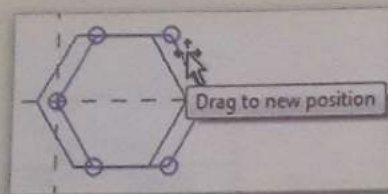

Figure 15: Inscribed polygon-options bar
- b. Click inscribed polygon » enter radius value 5 mm on the options bar and sides: 6 (Figure 15).